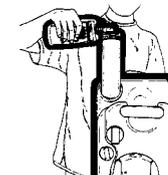

Fig. 4
4. Remove the cap of the pour out spout. Add required quantity of toilet fluid through pour-out spout then add approx. 2 litres of water through the spout to cover holding tank bottom. Replace cap and return pour out spout to its original stored position (fig. 4).